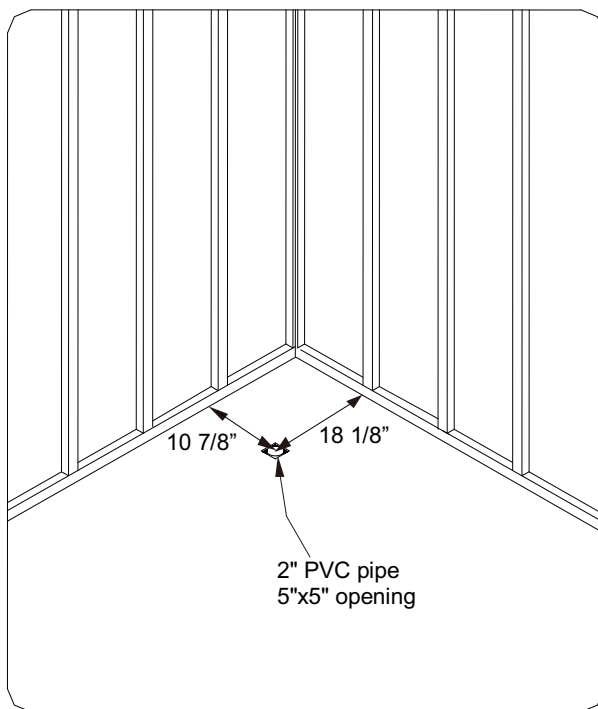

Fig. 1
1. Choose a position where you want to install the unit tray and refer to fig. 1 to mark out drain location in the floor. If your **Tray (16)** is for right-hand installation, the water outlet, drain hole and power outlet should be on the right side as well. See fig. 1 & 7 for details.